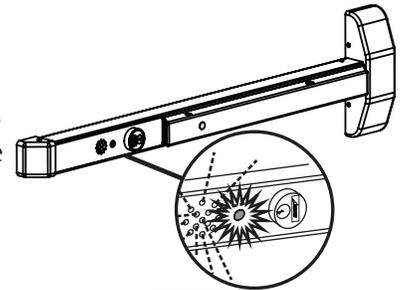

Figure 15
When ARMED, depressing the push rail will activate alarm. Horn will sound and red violation LED will flash. The horn will continue to sound for two (2) minutes (default). After two (2) minutes, unit will reset on its own and red LED will flash every 30 seconds until rearmed using the key. Turn key counter-clockwise to deactivate alarm. Turn key clockwise to rearm alarm (Figure 15).